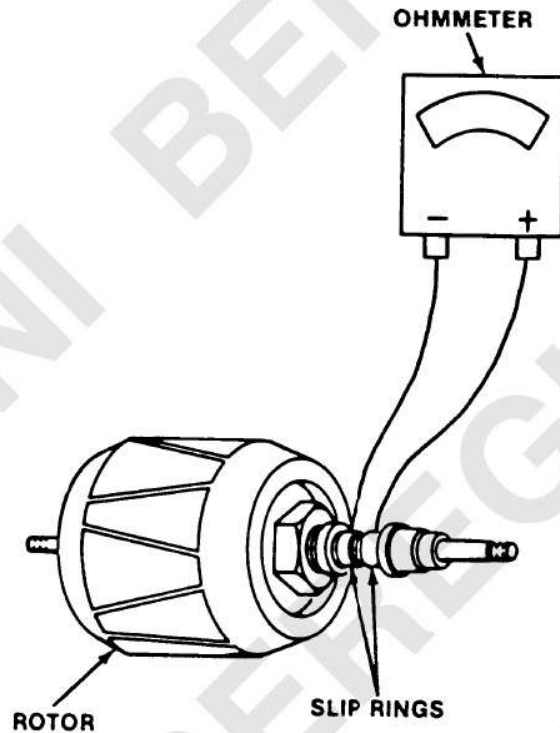

Figure 2-12. Rotor Resistance Test.
Step 15. Check resistance of rotor field circuit according to figure 2-12.